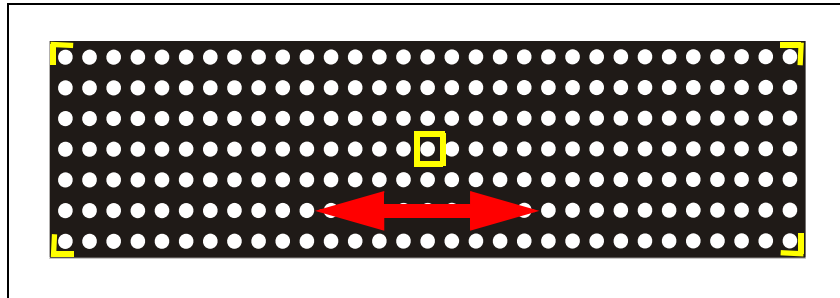

Figure 4-11. Locate X position of calibration plate
The camera view with a graphical support pattern is shown on the screen See Figure 4-11.
6. Use the graphical support pattern to locate the X position of the calibration plate. See Figure 4-11.